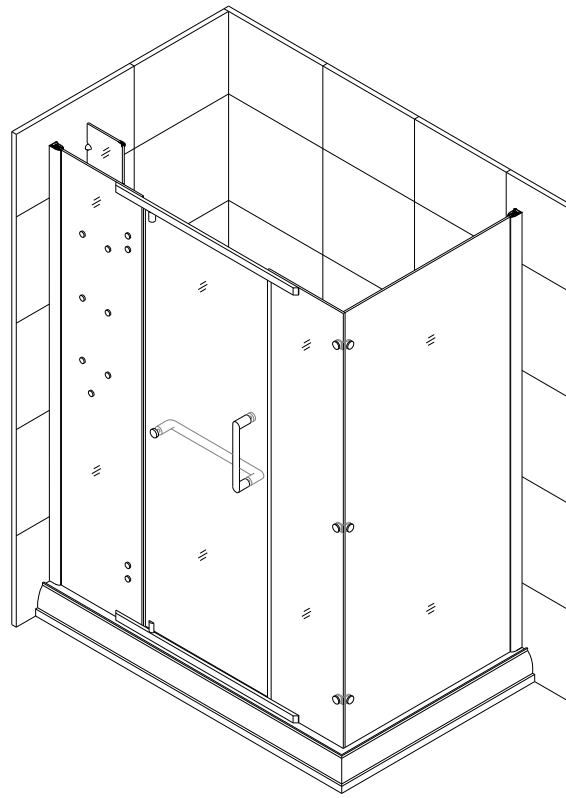

Fig 18
14. Apply silicone sealant along the wall profiles and along the bottom of the stationary glass as well as along the pivot bar. See Fig 18 for details.